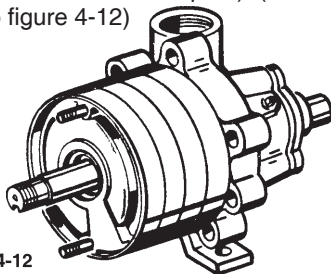

Figure 4-12
16. Complete the second stage assembly by installing a right hand channel ring (#9B) facing down toward the impeller. The discharge opening should be in the seven o'clock position (180 degrees from the one o'clock position used in Step #9). (refer to figure 4-12)